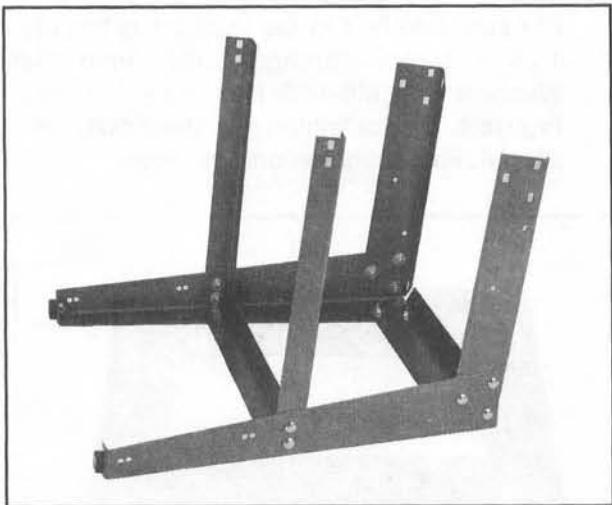

Figure 5.
3. Attach the short upper and lower side braces to one of the assembled side panels. Use the M8 - 1.25 x 16mm Carriage Bolts, 8mm Flat Washers and M8-1.25 Hex Nuts supplied. **Figure 5.**